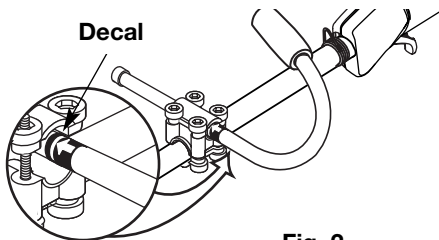

Fig. 2
2. While holding the three pieces together, install the four (4) screws through the top clamp and into middle clamp.
5. Slide the J-handle in or out until the arrow/white line on the decal touches the clamp assembly (Fig. 2). You must first loosen the screws if the handle is pre-installed.